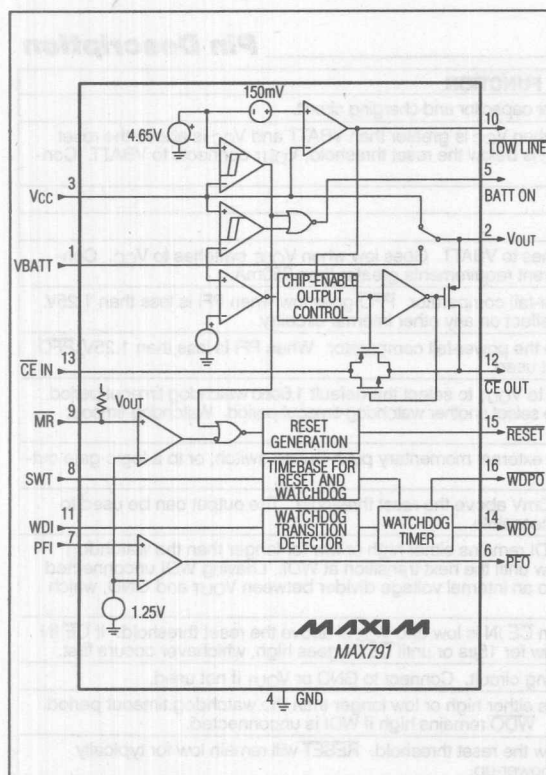
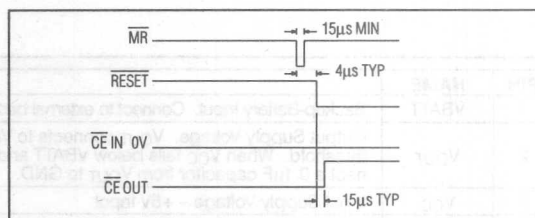

Figure 1. Block Diagram.
Figure 2. Manual-Reset Timing Diagram
Many μP-based products require manual-reset capability, allowing the operator to initiate a reset. The Manual Reset Input (MR) can be connected directly to a switch, without an external pull-up resistor or debouncing network. It connects to a 1.25V comparator, and has a pull-up to VO_{UT} as shown in Figure 1. The propagation delay from asserting MR to RESET asserted is 4μs typ. Pulsing MR low for a minimum of 15μs resets all the internal counters, sets the Watchdog Output (WDO) and Watchdog-Pulse Output (WDPO) high, and sets the Set Watchdog-Timeout (SWT) input to VO_{UT} - 0.6V if it is not already connected to VO_{UT} (for internal timeouts). It also disables the chip-enable function, setting the Chip-Enable Output (CE OUT) to a high state. The RESET output remains active as long as MR is held low, and the reset-timeout period begins after MR returns high (Figure 2).
The MAX791 provides internal gating of chip-enable (CE) signals, to prevent erroneous data from corrupting CMOS RAM in the event of a power failure. During normal operation, the CE gate is enabled and passes all CE transitions. When reset is asserted, this path becomes disabled, preventing erroneous data from corrupting the CMOS RAM. The MAX791 uses a series transmission gate from the Chip-Enable Input ($\overline{\text{CE IN}}$) to $\overline{\text{CE OUT}}$ (Figure 1).